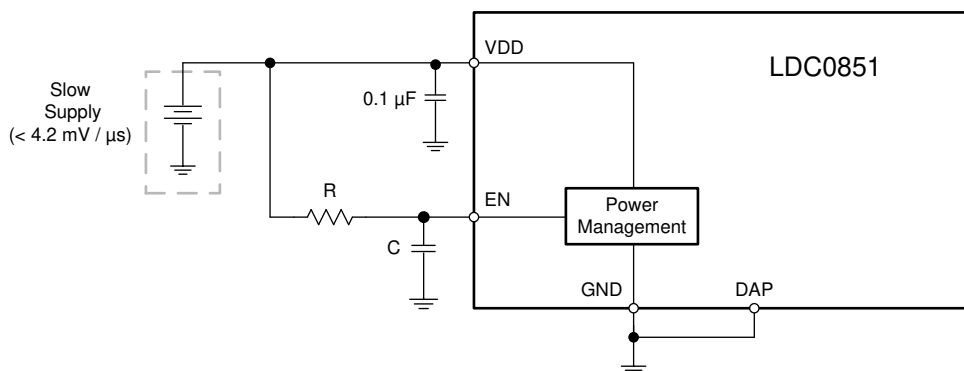

图 7-9. Supply Connections for Slow Ramp Rate
For supply ramp rates slower than 4.2 mV/ μs , an RC low pass filter must be added to the enable input (EN) as shown in 图 7-9. Alternatively, the EN pin may be tied to a nanotimer or microcontroller to wake up the LDC0851 after VDD has ramped to its nominal value.